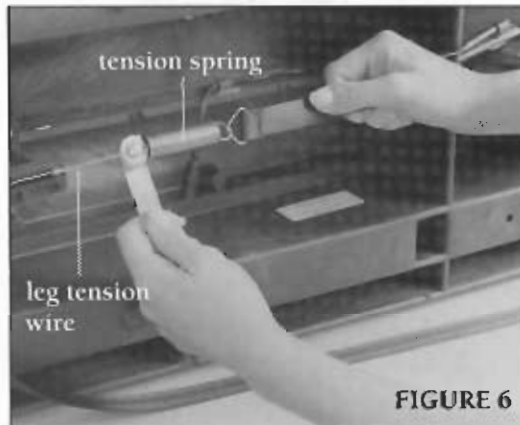

FIGURE 6
5. Tighten the nut securely onto the leg tension wire bolt with the small flat wrench (Figure 6).